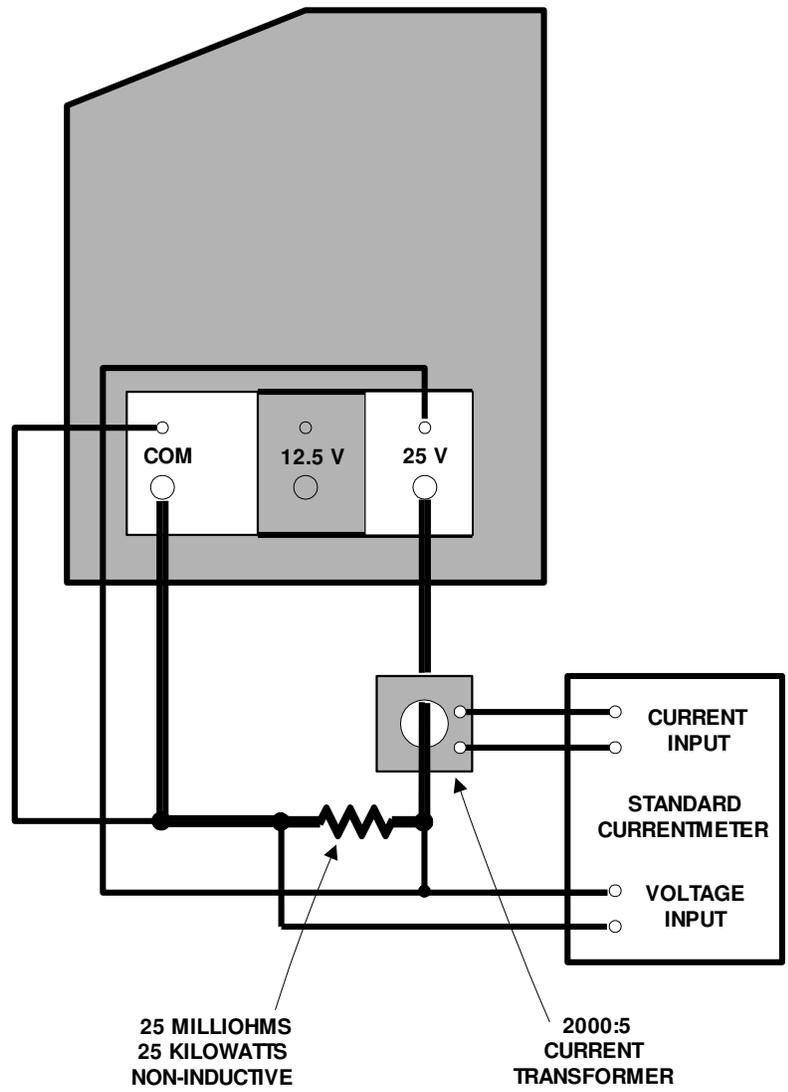

Figure 5-7. Kilowattmeter Calibration Set-up, 25 Volt Tap
7. Connect the test equipment to the Test Set as shown in Figure 5-7. Energize the Test Set.